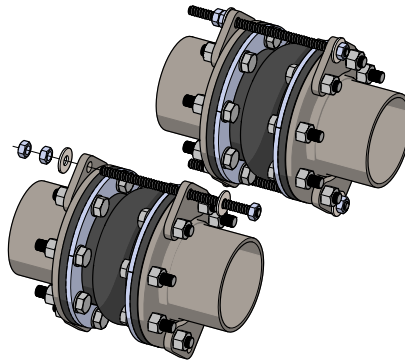

Figure 19: Limit Rod Installation
Step 7: Insert the staked limit rod with the washer attached through the limit rod plate holes. Then secure the limit rod to the limit rod plates with the additional hardware as shown in Figure 19. Replace flat washers with spherical washers whenever application requires.